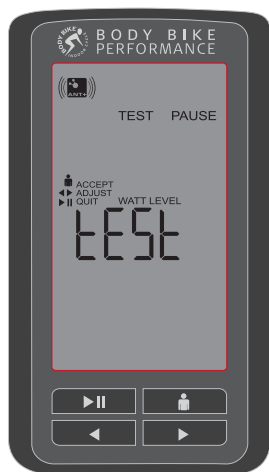

Figure 38
- 2: Enter the test by pressing until you reach the test screen, see figure 38.